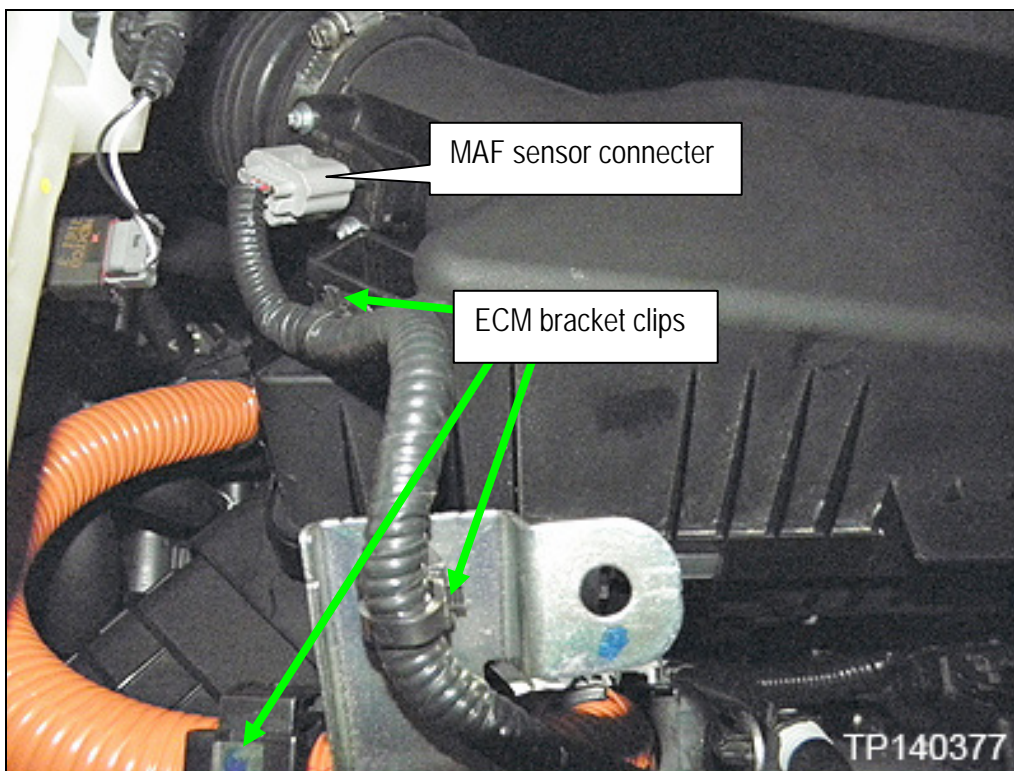

Figure 7
13. Disconnect the MAF sensor connector from the MAF sensor and then unclip the harnesses from the ECM bracket (shown in Figure 7).